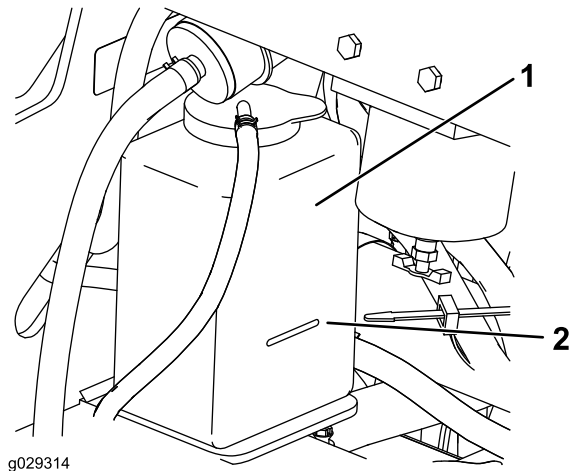

Figure 63
3. Check the coolant level in the expansion tank (Figure 63).